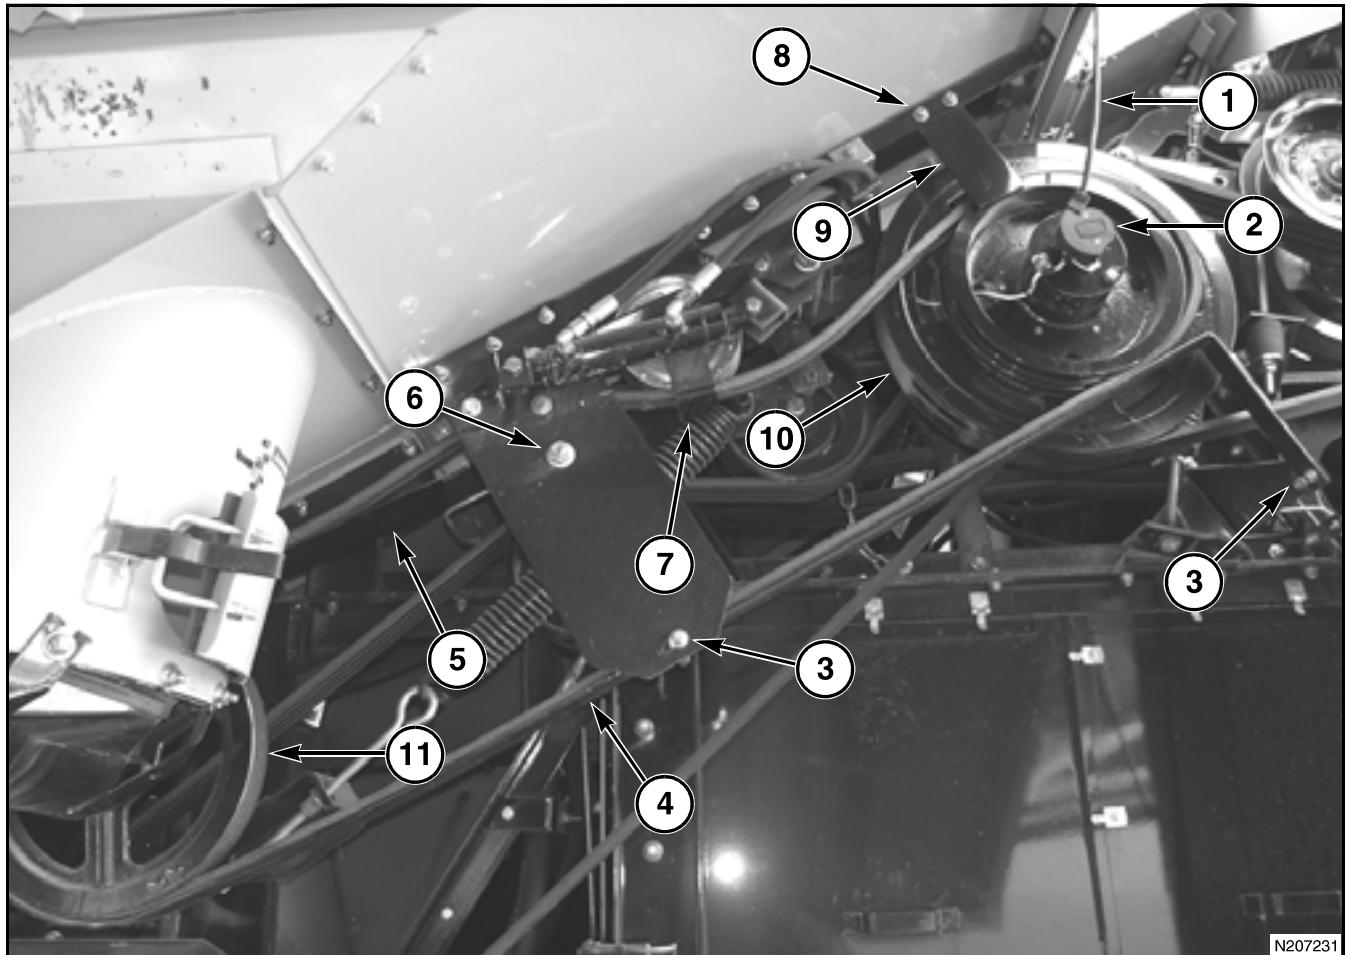

FIG. 663
FIG. 663: The wiring harness (1) must be disconnected to remove the drive belt. The wiring harness (1) from the brush holder assembly (2) connects to a machine ground and to a connector in the combine wiring harness. Disconnect the ground wire and the lead wire from the connector. Remove the wiring harness from the clips.